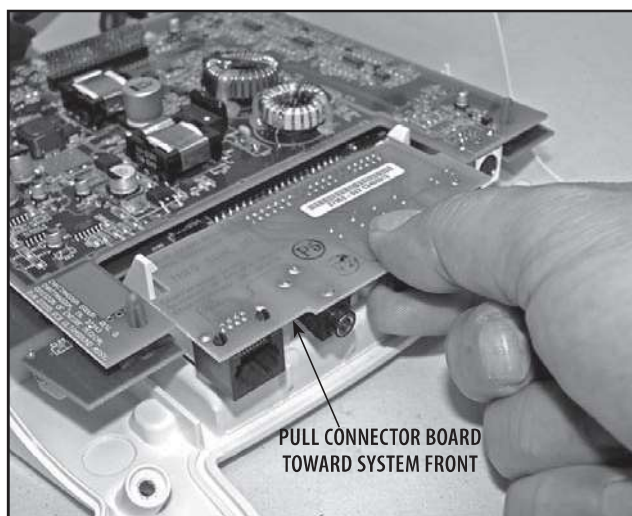

FIGURE 6.32
3. Carefully pull Connector Board out toward front of System. See Figure 6.32.